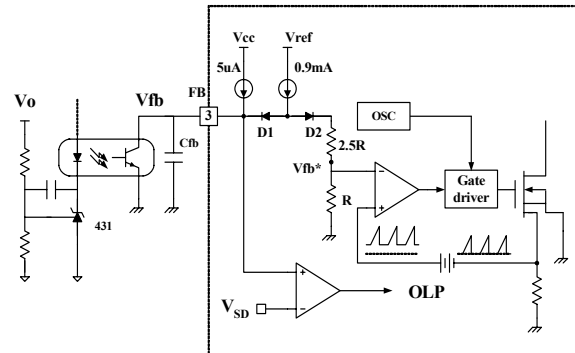

Figure 5. Pulse width modulation (PWM) circuit
2. Feedback Control : The FSDx0365RN employs current mode control, shown in figure 5. An opto-coupler (such as the H11A817A) and shunt regulator (such as the KA431) are typically used to implement the feedback network. Comparing the feedback voltage with the voltage across the R_{sense} resistor plus an offset voltage makes it possible to control the switching duty cycle. When the reference pin voltage of the KA431 exceeds the internal reference voltage of 2.5V, the H11A817A LED current increases, thus pulling down the feedback voltage and reducing the duty cycle. This event typically happens when the input voltage is increased or the output load is decreased.